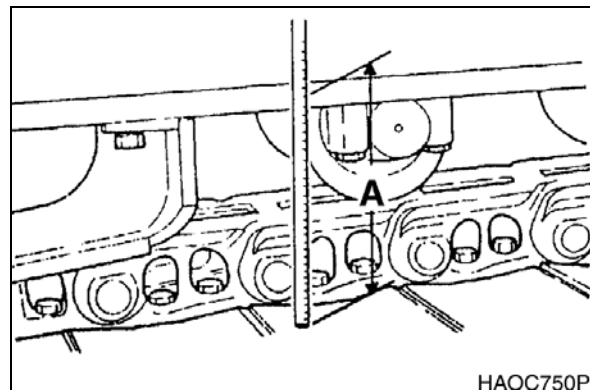

Figure 2
2. Measuring the distance (A, Figure 2) between the bottom of the side frame and the top of the lowest crawler shoe. Recommended tension for operation over most types of terrain is 320 ~ 340 mm (12.60 ~ 13.38 in)